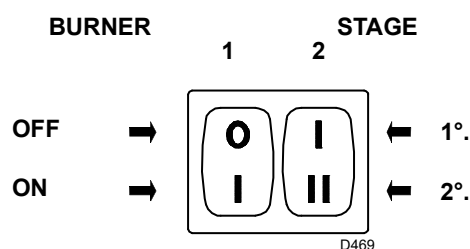
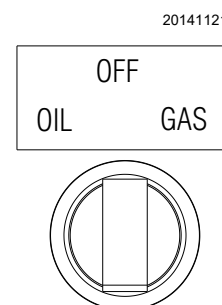

Fig. 33
Fig. 34
Keep the burner operating at 1st stage by setting the switch 2)(Fig. 33) to the 1st stage position. The fan damper can be adjusted by operating the orange level of the servomotor ("Servomotor adjustment" on page 30).
Turn switch 2)(Fig. 33) to the 2nd stage position. The fan damper can be adjusted by operating the red level of the servomotor, ("Servomotor adjustment" on page 30).
Start the burner by closing the remote controls, with the switch 1)(Fig. 33) in the "ON" position and with the fuel selector switch set to "OIL" (Fig. 34).
The pump can be considered to be primed when the light oil starts coming out of the screw 3)(Fig. 23 on page 22). Stop the burner: set switch 1)(Fig. 33) to "OFF" and tighten the screw 3).
- switch 1)(Fig. 33 on page 27) in "**BURNER ON**" position;
- switch 2)(Fig. 33 on page 27) in "**1st STAGE**" position;
Turn switch 2)(Fig. 33) to the 2nd stage position: the servomotor will open the air damper on the value previously set for the light oil and will control the opening of the 2nd stage VR2 gas valve.
Turn switch 2)(Fig. 33) to the 1st stage position: the servomotor will close the air damper on the value previously set for the light oil and will control the opening of the 1st stage VR1 gas valve.